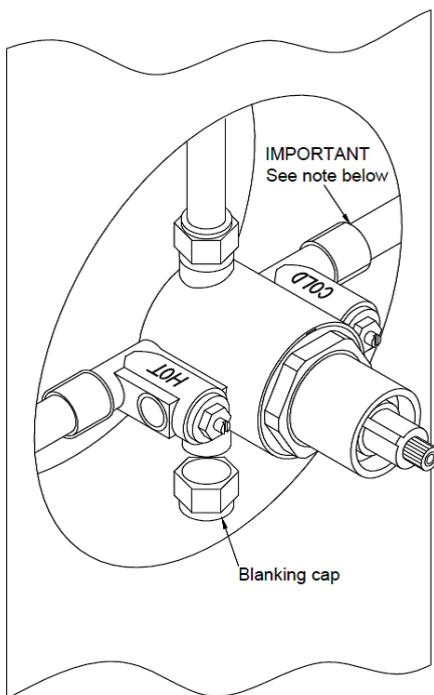

Fig 1
6. Make the plumbing connection to the water outlet. This will take the water to the chosen auxiliary product (shower kit) you have selected to run with this shower (fig 1).